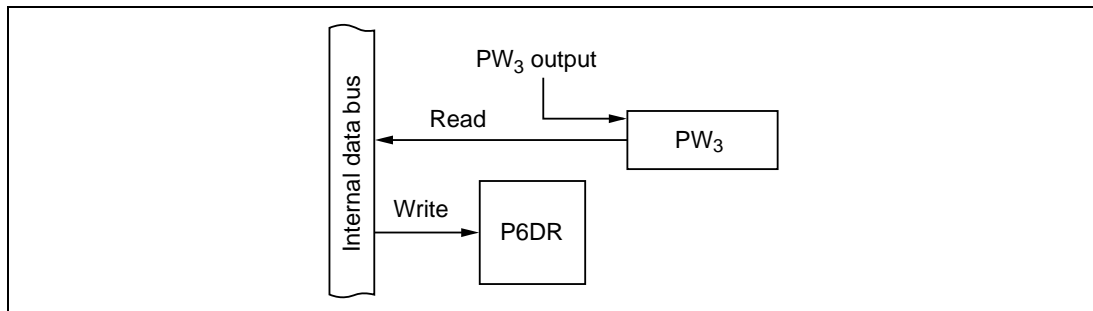

Figure 10-42 PW_3 Output Combined with General-Purpose Input (Modes 1 to 7)
(7) PW_3 Output Combined with General-Purpose Input ($P6_0$: Modes 1 to 7): Figure 10-42 shows a block diagram illustrating the PW_3 output function of $P6_0$ when combined with general-purpose input. Table 10-33 indicates register read/write data. When $P6_0$ is used for PW_3 output it can also be read as a general-purpose input port, to monitor the state of the PW_3 pin.